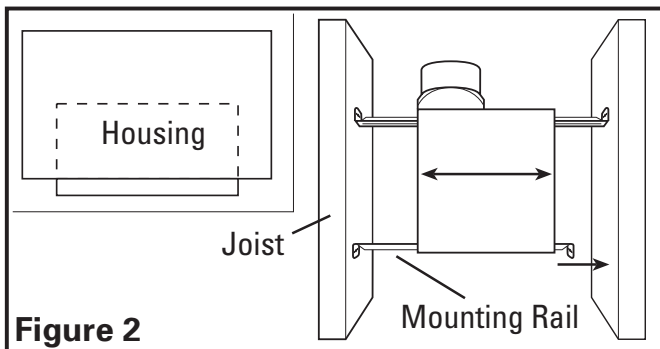
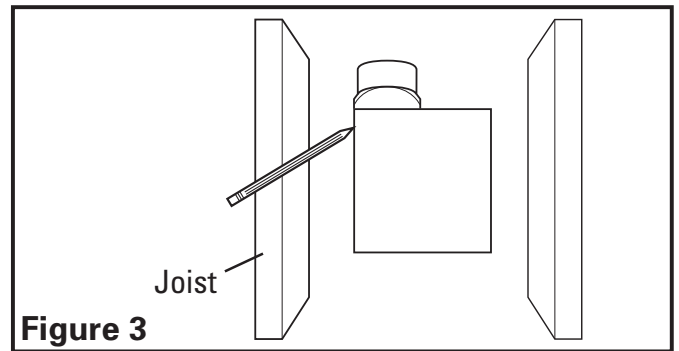

Figure 2
Figure 3
1. Install the side mounting rails on the housing and position the housing next to the joist. Line up housing so that it will be flush with the finished ceiling. Secure the ends of the mounting rails with screws or nails (not included) to the joists and slide the housing into the final position (Figure 2).
1. Set housing in position between the joist and trace an outline onto the ceiling material (Figure 3). Set housing aside and cut opening, being careful not to cut or damage any electrical or other hidden utilities. Install the side mounting rails on the housing and position the housing in the previously cut hole so that it is flush with the finished ceiling. Secure the ends of the mounting rails to the joists (Figure 2).